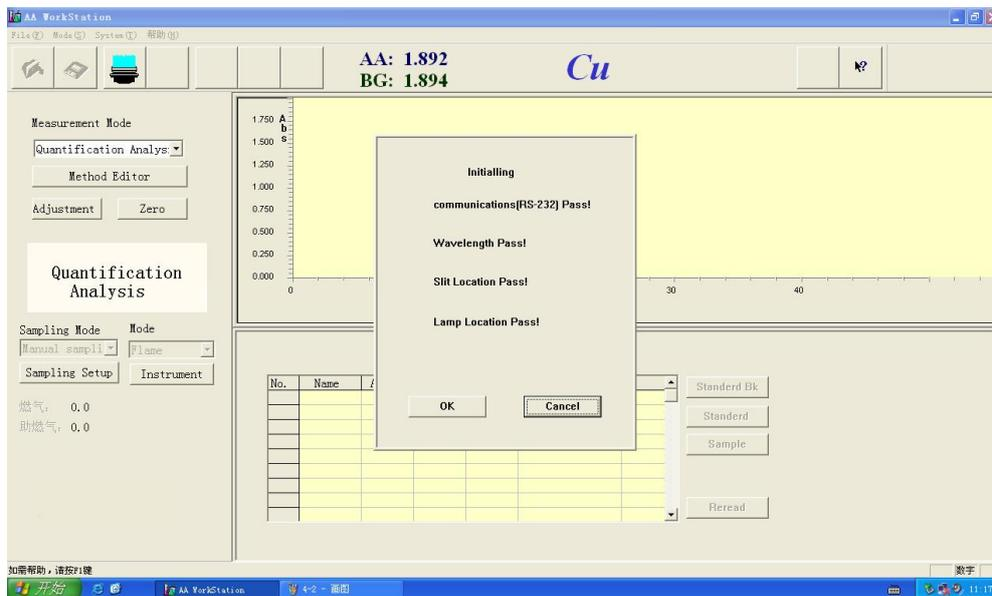

Figure 4-3
3. after the self-test the following is shown in Figure 4-3.